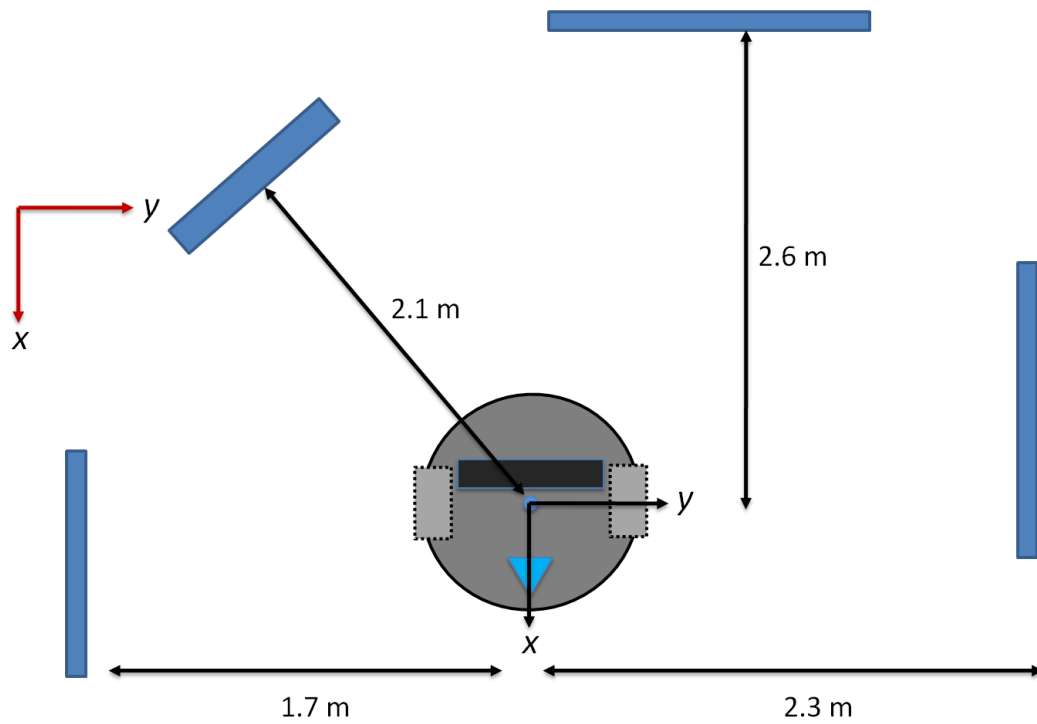
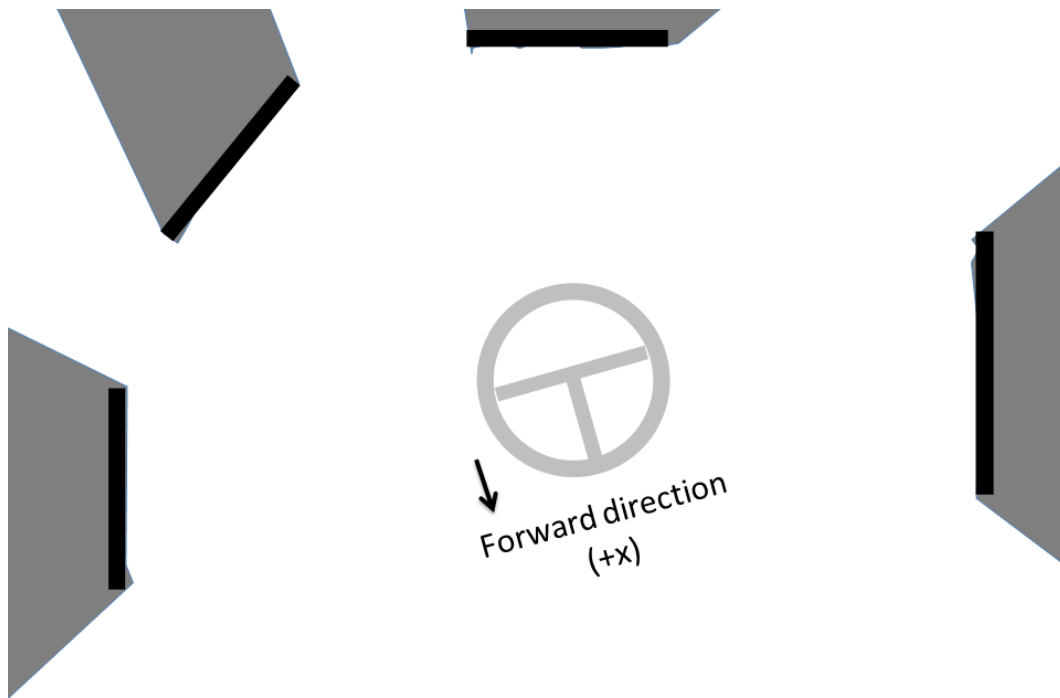

Figure 2.2: Configuration of the objects surrounding the QBot 3 for autonomous mapping.
Figure 2.3: Generated map (zoomed in) and the current robot pose (position and orientation).
Note: The robot is shown on the generated map image window by a light gray circular shape as shown in Figure 2.3 with the forward direction indicated in the figure. You can change the scale of the robot on the map using *RobotScale* parameter in the To Display block diagram in the model.
5. Configure four objects surrounding the QBot 3 as in Figure 2.2. Now leaving $v_c = 0$, set ω to 0.3. Put the robot in a known initial configuration (facing the x axis on your map, shown in Figure 2.2), run the model and enable the manual switch once the robot is ready. Allow the robot to rotate twice and then disable the manual switch. Compare the generated map to the actual environment and examine any errors. The ideal generated map look similar to the one shown in Figure 2.3.